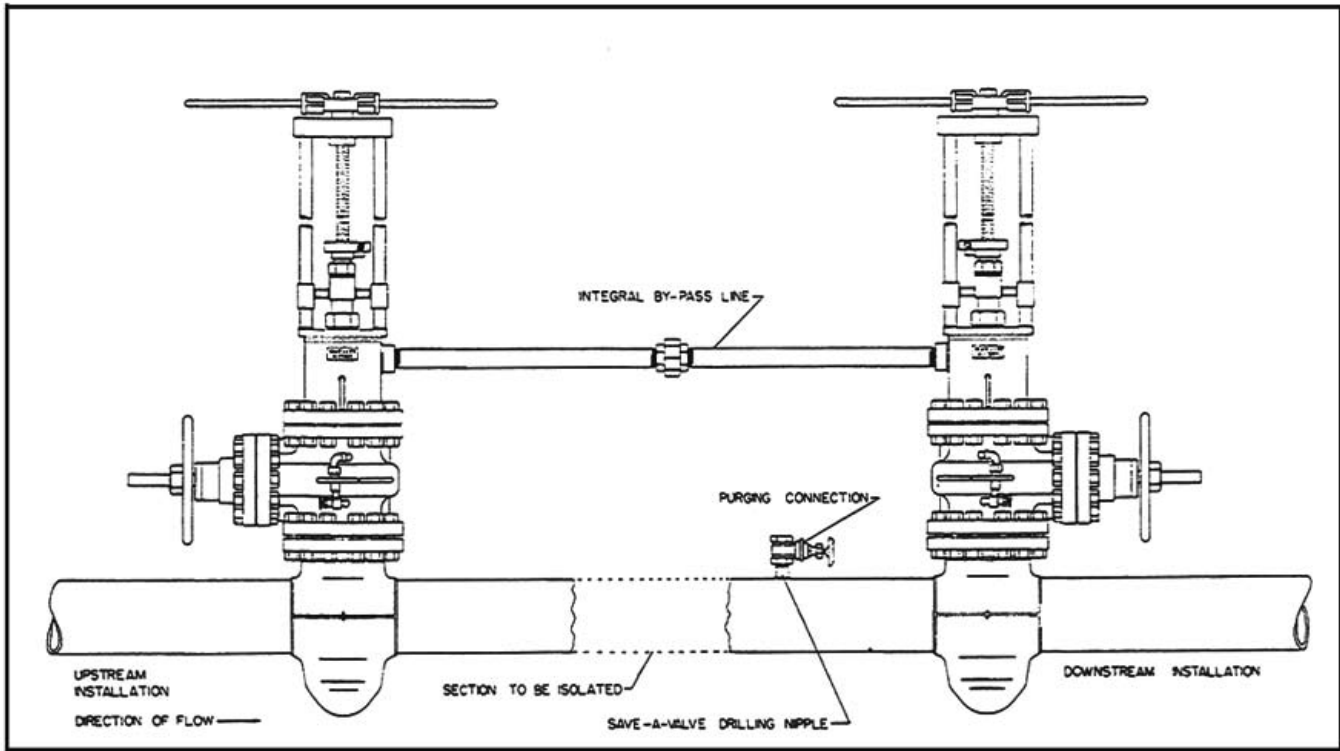

FIGURE 12
2. See **Figure 12** when using two stopping machines to isolate a section of pipe and using an integral by-pass line to maintain service. Also see page 50 for flow data through this type of by-pass.
1. If integral by-pass line is being used between two stopping machines, (Figure 12) the air is purged from the by-pass line by: